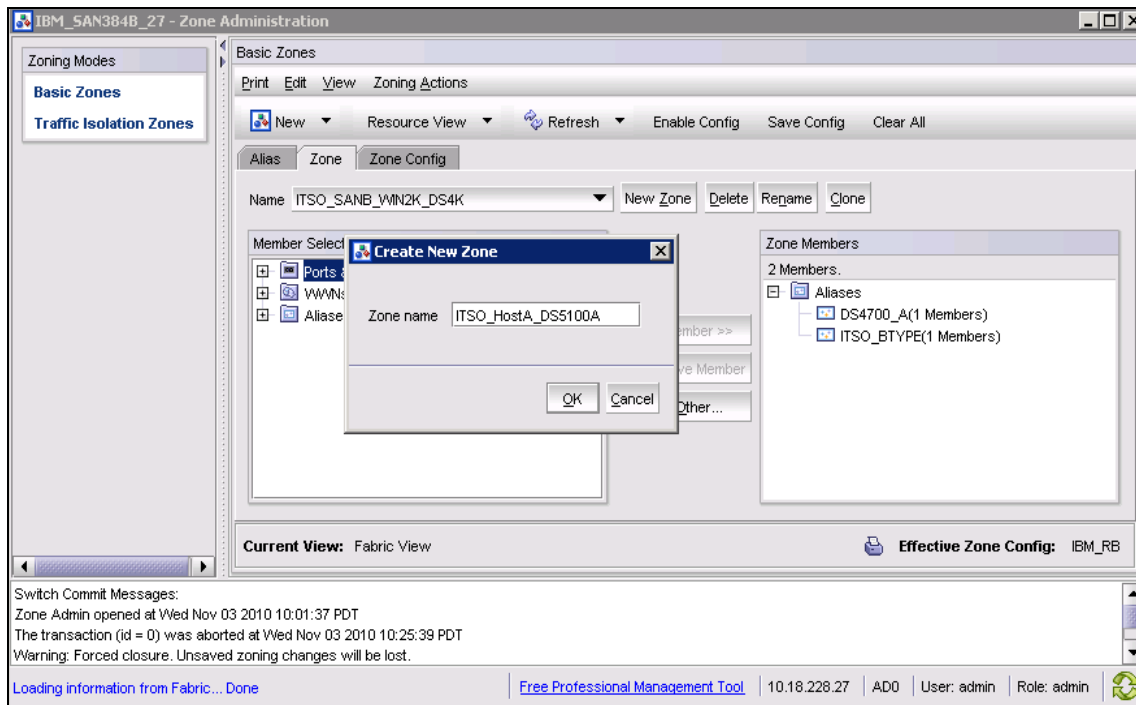

Figure 12-35 Create new zone
1. From the Zone Administration Main window, go to the Zone tab, and click **New Zone**. The Create New Zone dialog box displays. Enter a name for the new zone, and click **OK**, as shown in Figure 12-35.